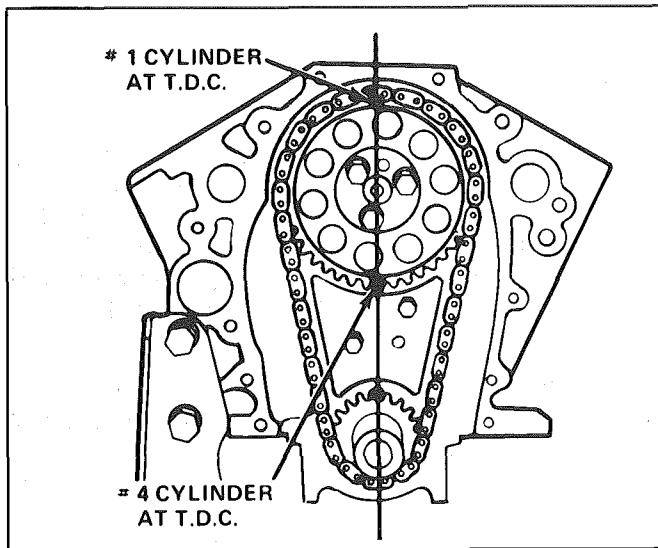

Figure 6A2-19 Camshaft Timing
1. Install timing chain on camshaft sprocket, lube thrust surface with Molykote or its equivalent. Hold the sprocket vertically with the chain hanging down and align the marks on the camshaft and crankshaft sprockets. (Refer to Figure 6A2-19).